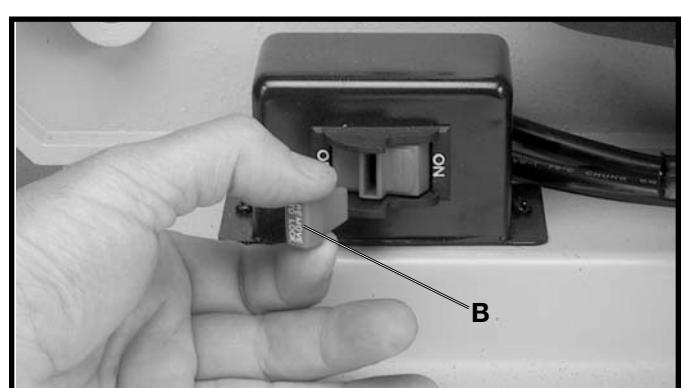

Fig. 22
**IMPORTANT:** When the machine is not in use, the switch should be locked in the "OFF" position to prevent unauthorized use. This can be done by grasping the switch toggle (B) and pulling it out of the switch, as shown in Fig. 22. With the switch toggle (B) removed, the switch will not operate. However, should the switch toggle be removed while the sander is running, it can be turned "OFF" once, but cannot be restarted without inserting the switch toggle (B).